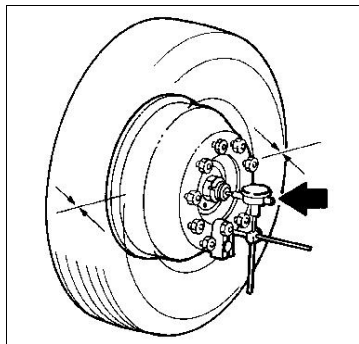

Figure 1. Measuring Hub End Play
8. Use a dial indicator to measure hub end play with respect to the spindle. Mount the dial indicator at the bottom of the wheel as shown in Figure 1. Grasp the tire at 3 o'clock and 9 o'clock position. First push, then pull evenly on the tire to measure the amount of end play. Note the total indicator reading.